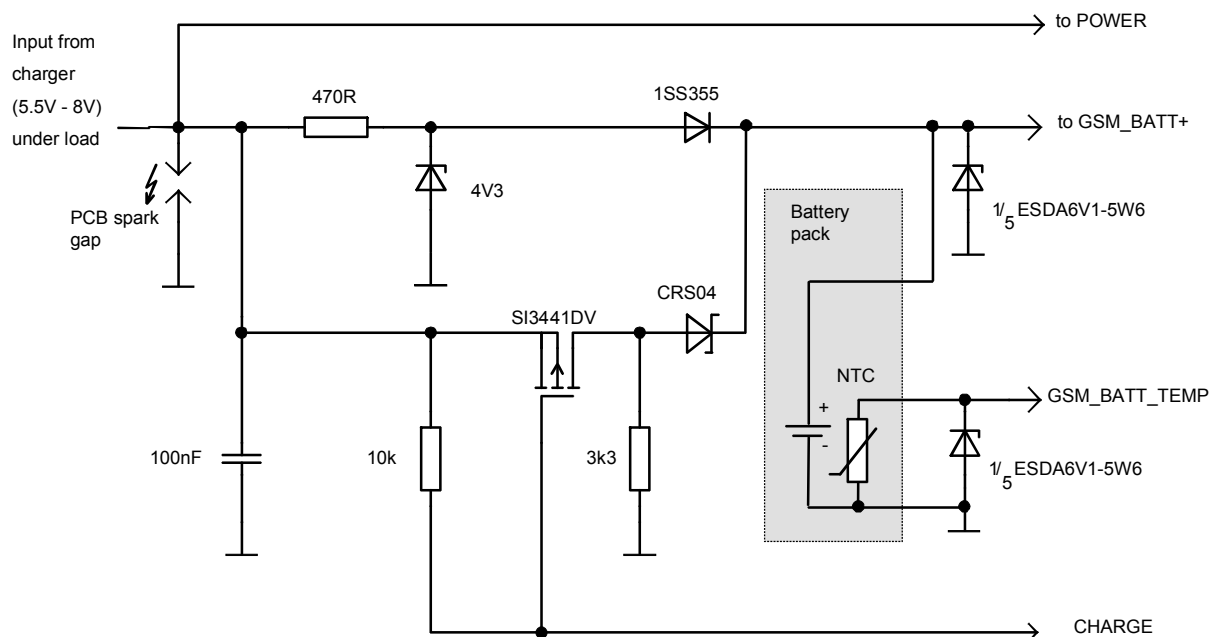

Figure 9: Schematic of approved charging transistor, trickle charging and ESD protection
*Note: The charging control described in this chapter is optimized for the GSM/GPRS part of XT55 only and does not cover the GPS part. To include the GPS part you need to change components illustrated in Figure 9, especially those of the trickle charging path (470R, 4V3, 1SS355).*
The module only delivers, via its GSM\_POWER line and GSM\_CHARGE line, the control signals needed to start and stop the charging process. The charging circuit should include a transistor and should be designed as illustrated in Figure 9. A list of parts recommended for the external circuit is given in Table 7.
If the external charging circuit follows the recommendation of Figure 9, the charging process consists of trickle charging and processor controlled fast charging. For this solution, the fast charging current provided by the charger or any other external source must be limited to 500mA.
If you are using the implemented charging technique and the charging circuit recommended in Figure 9, the charger must be designed to meet the following requirements: